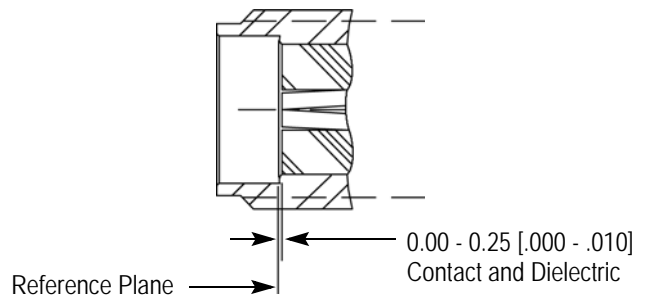

Figure 5
11. Adherence to assembly procedure should yield tolerances shown in Figure 5.